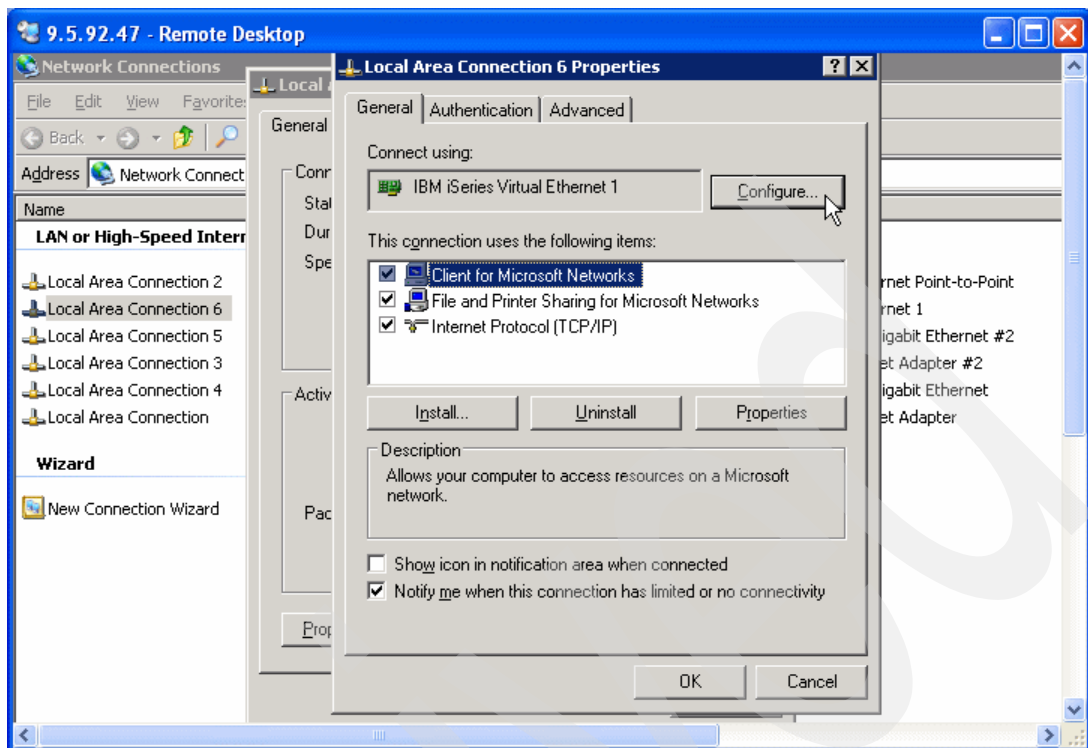

Figure 9-79 Redeploying a Virtual Ethernet LAN to a different initiator HBA port - 1
6. Click **Properties**. You see a display similar to the one shown in Figure 9-79 on page 450.